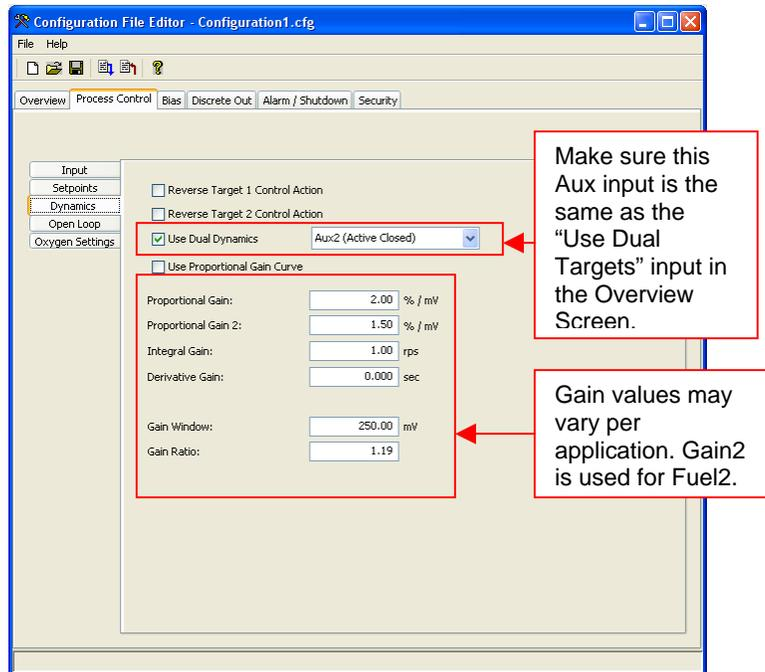

Figure 10. Process Control Dynamics Tab Set For Bi-Fuel Applications
**Figure 10** shows the Process Control – Dynamics tab of the configuration file. The Use Dual Dynamics tab is selected and matches the Aux2 input as the “Fuel Select” discrete input in the Overview Screen.